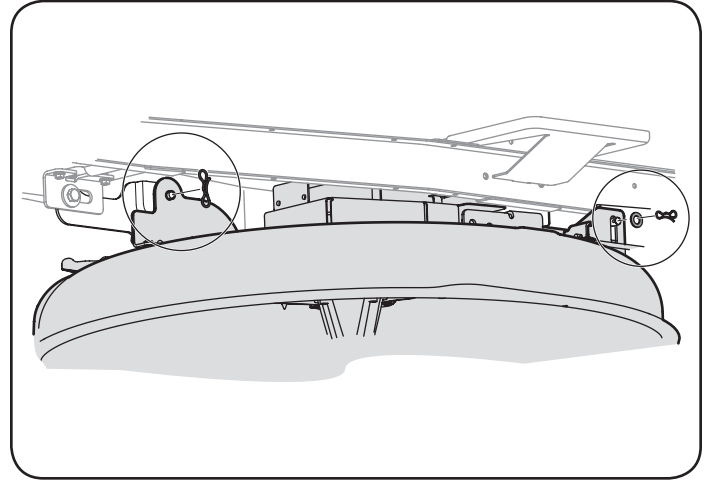

Figure 40
5. Remove the remaining bow-tie cotter pins securing the deck to the unit, as shown in Figure 40.